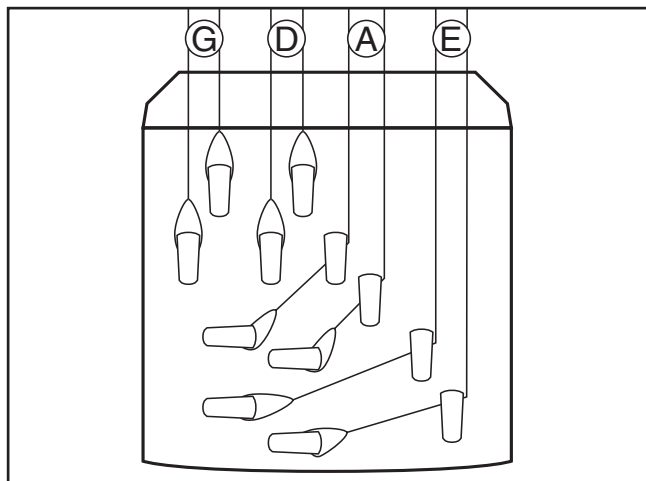

Figure 19. String placement.
1. Place the end of the string with the loop over the hooks on the tailpiece as shown in **Figure 19**. Work from the thinnest string (E string-treble) to the thickest (G string-bass).